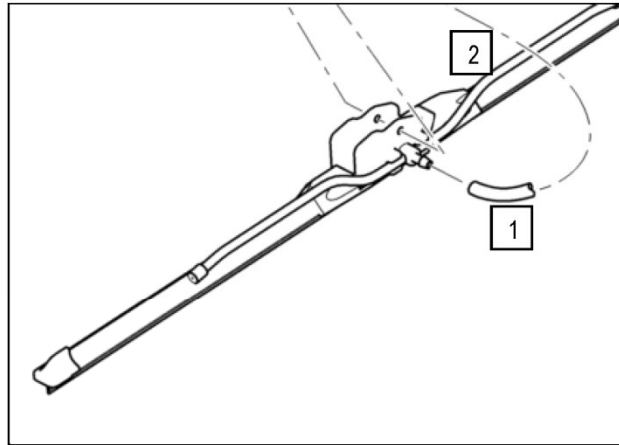

Figure 2
- 2) Remove the rubber tube (1) connected to the Wiper Blade Spray Nozzles (2) PN 3G3040V01151 (Ref. Fig. 2)